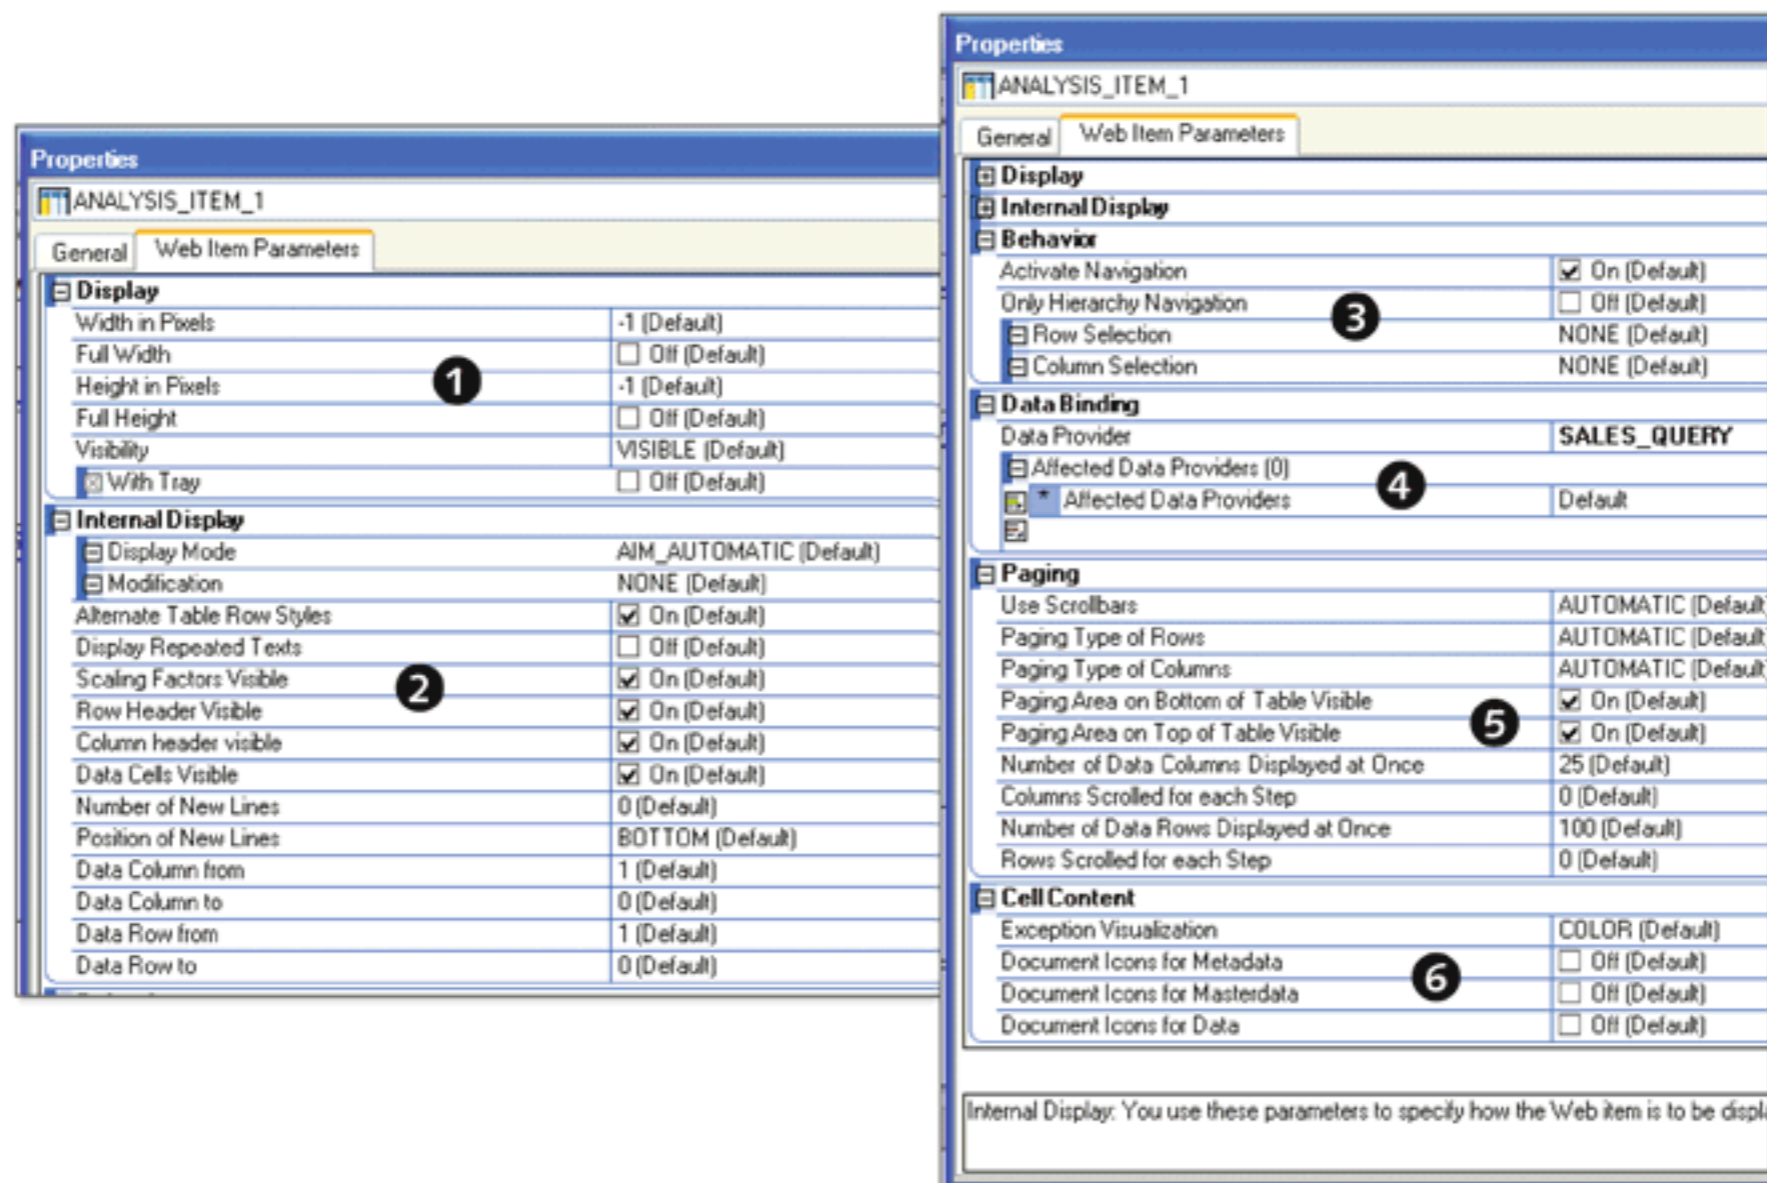

Figure 11.22 Analysis Web Item Parameters
Different parameters corresponding to the ANALYSIS web item are maintained on the WEB ITEM PARAMETERS tab. The parameters are grouped by category, as shown in Figure 11.22. You can maintain the display-related settings, such as length, width, and appearance of the web item, using the parameters under the DISPLAY section (❶ of Figure 11.22). The parameters that control the display of data within the ANALYSIS web item are available under INTERNAL DISPLAY (❷).